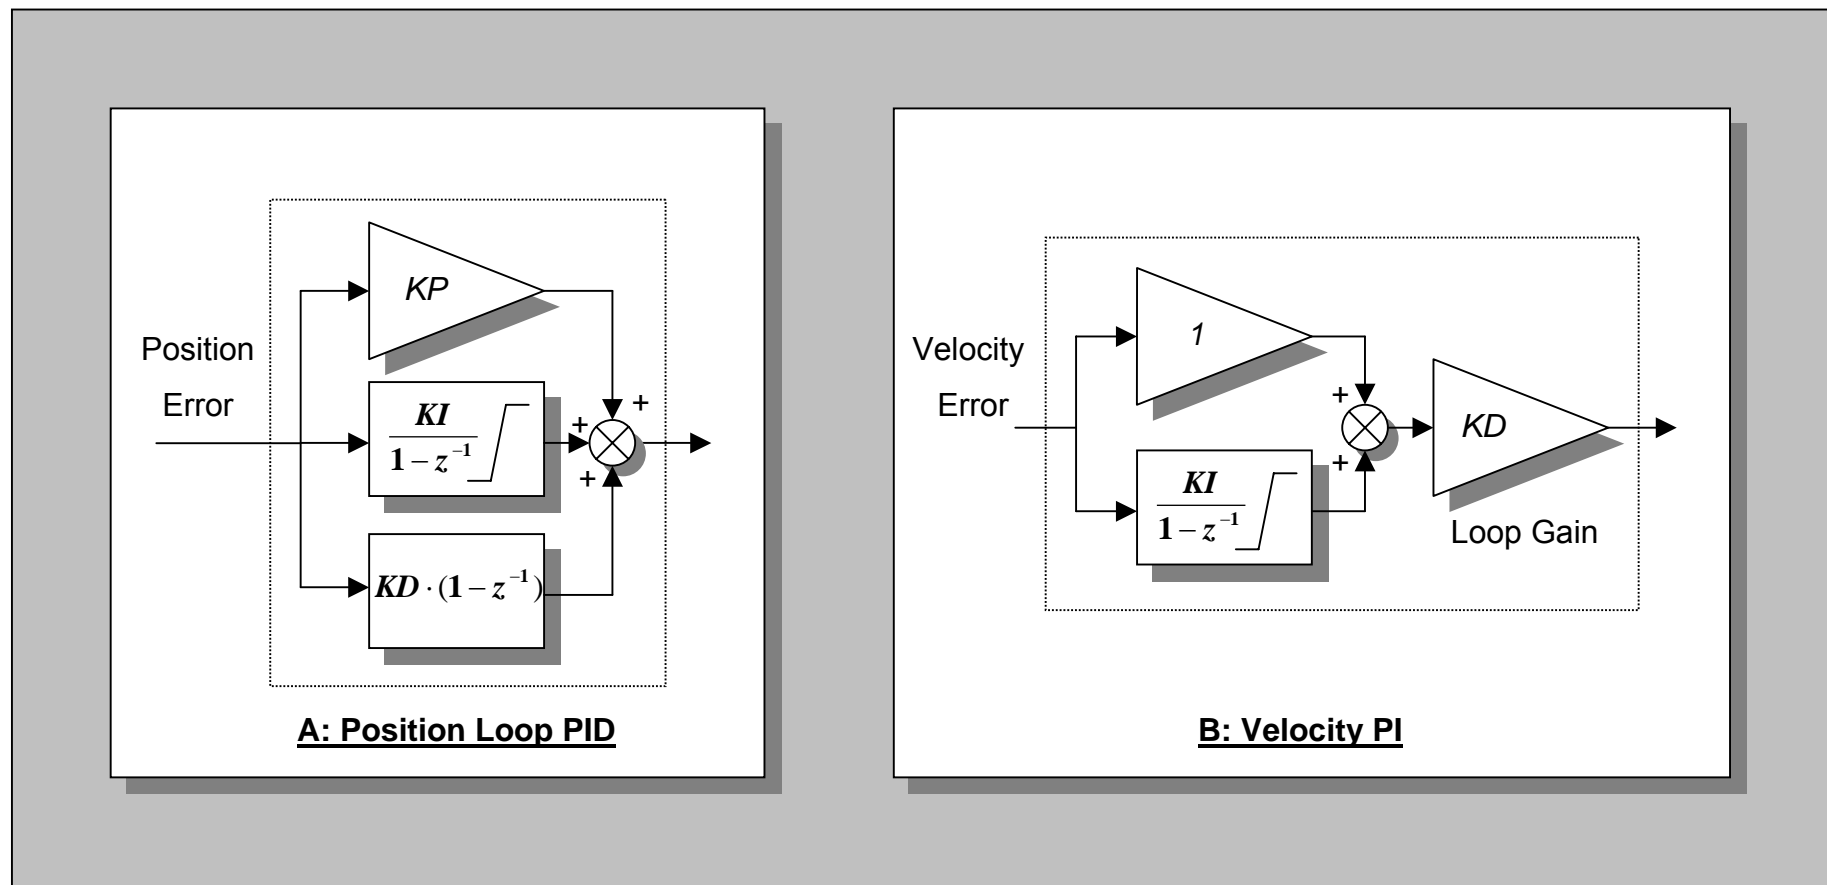

Figure 1-6: Position PID and Velocity PI Filters.
- Figure 1-6 below shows both the position loop PID filter and Velocity loop (in PIV Mode) PI filter implementations.
The PID loop linear filter is shown in Figure 1-6 above. The PID linear filter equations are:
The Velocity loop linear PI filter in PIV mode is shown in Figure 1-6 above. The linear filter equations in that mode are: